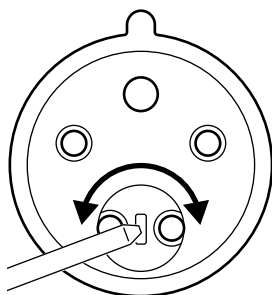

Fig. 15
3. Check the rotational direction of the fan motor. The fan motor rotation direction is checked by starting the fan, then stopping the fan. When the speed decreases, you can see which way your engine rotates through the hood for the fan cooling (where the decal is located, according to **Fig. 1**, pos. 6). If the direction of rotation is incorrect, use a flat screwdriver to reverse the phase on the plug as shown in **Fig. 15**.